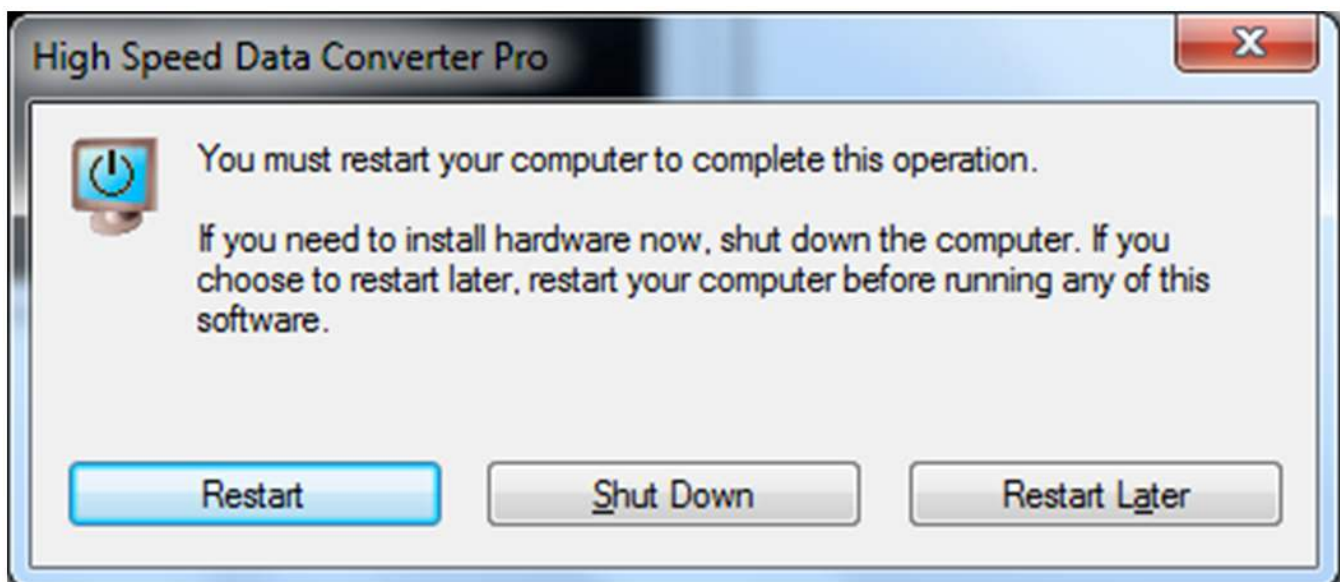

Figure 29. HSDCPro Install
- As shown in Figure 29 a restart might be requested depending on whether or not the PC already had the National Instruments MCR Installer. If requested, hit the *Restart* button to complete the installation.